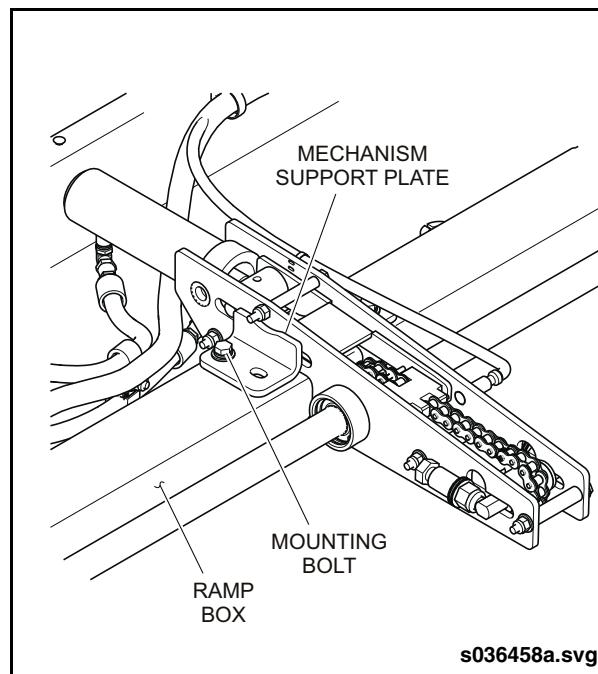

Fig. 20-9: Mechanism Mounting
3. Loosen the four bolts that attach the mechanism support plates to the ramp box. See "Fig. 20-9: Mechanism Mounting" on page 16.